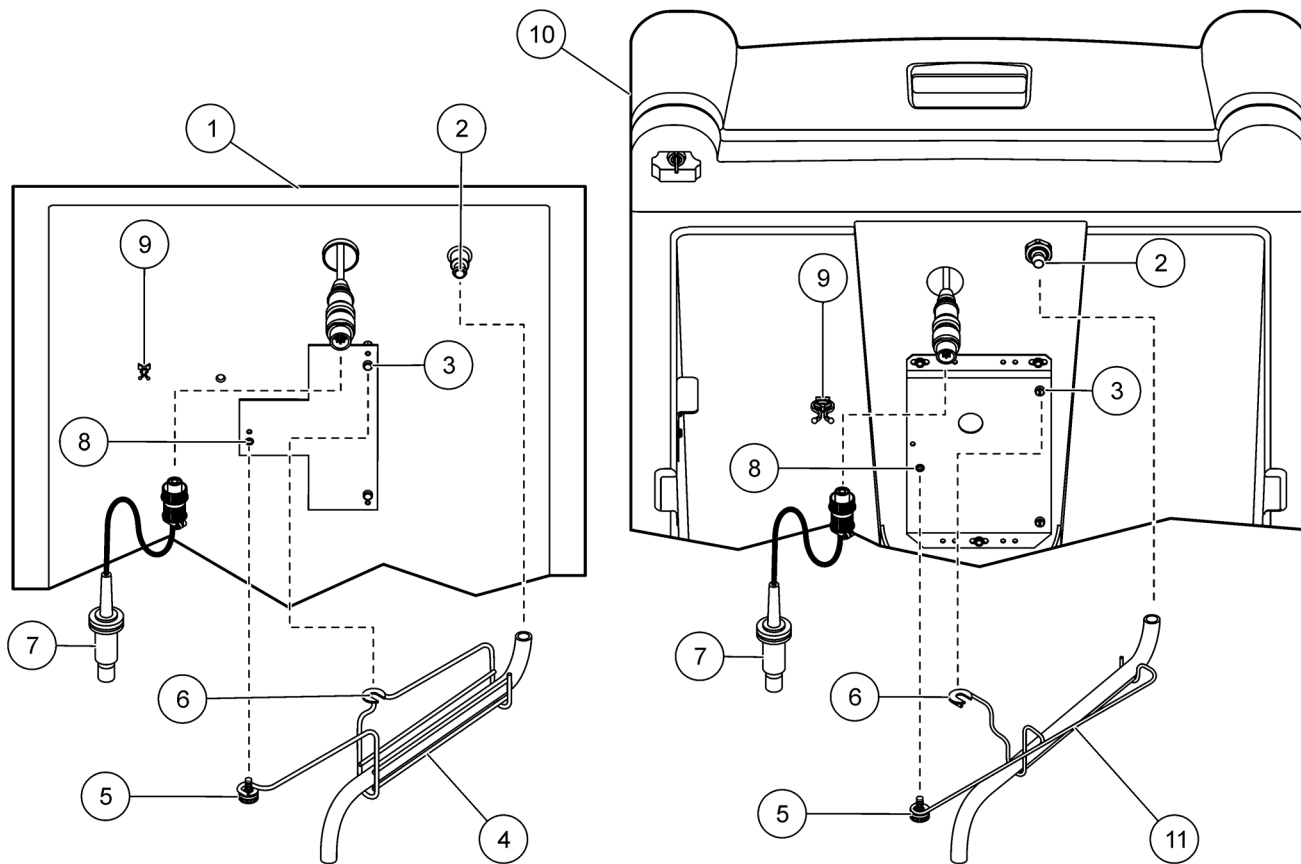

Figure 10 Full bottle shut-off installation
3. Connect the cable on the full bottle shut-off to the bottom of the controller (Figure 10). Turn to tighten. Attach cable assembly to twist clip.
4. Slide the slot in the tubing support around the retainer pin on the top inside surface of the refrigerator (Figure 10). Make sure that the tube exits through the ends of the tubing support.
6. Connect one end of the tubing to the inside tube fitting (Figure 10).